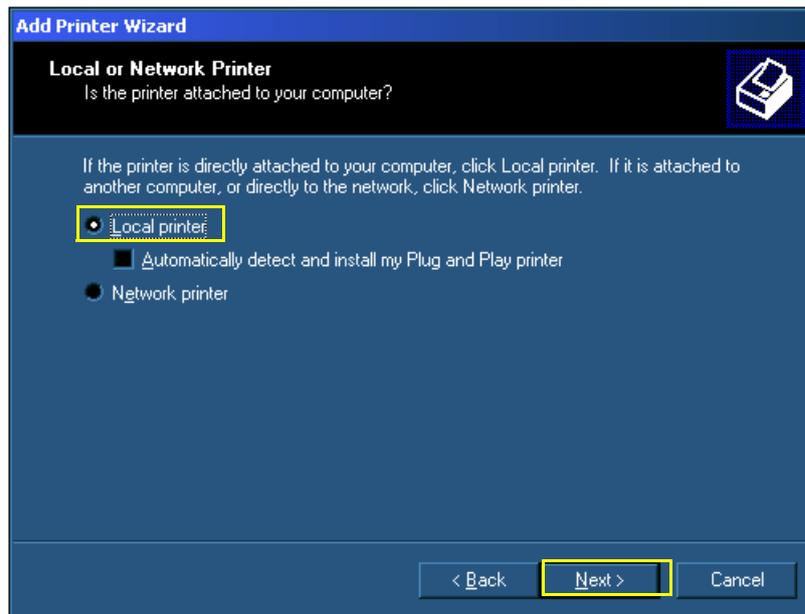

Figure 8-139 Verify Local Printer
10.) When prompted, verify that *Local Printer* is selected. If not, activate the **Local printer** radio button as shown in Figure 8-139.